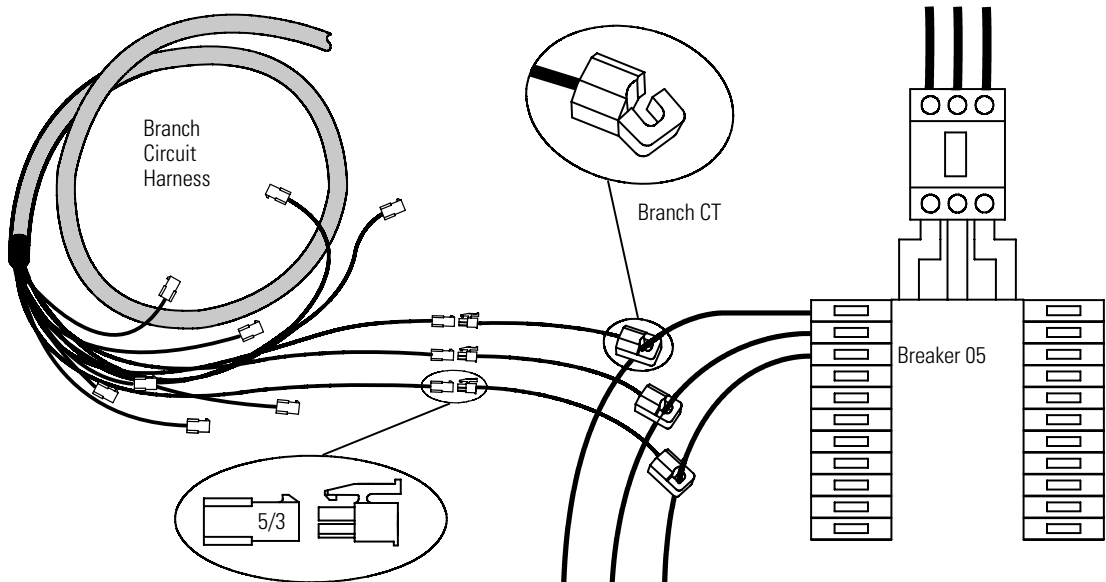

Figure 9. Branch Circuit Harness Connections
- 6. 75A or 100A Split-Core Branch CT option only.** Connect the two branch circuit harnesses to the breaker panel (see Figure 9):